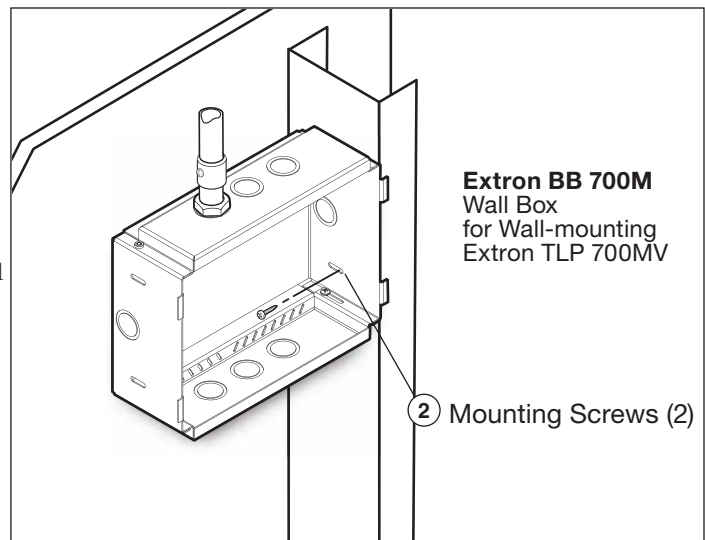

Figure 4
2. Secure the BB 700M to a vertical stud (metal or wooden) using two nails or screws (see figure 4).